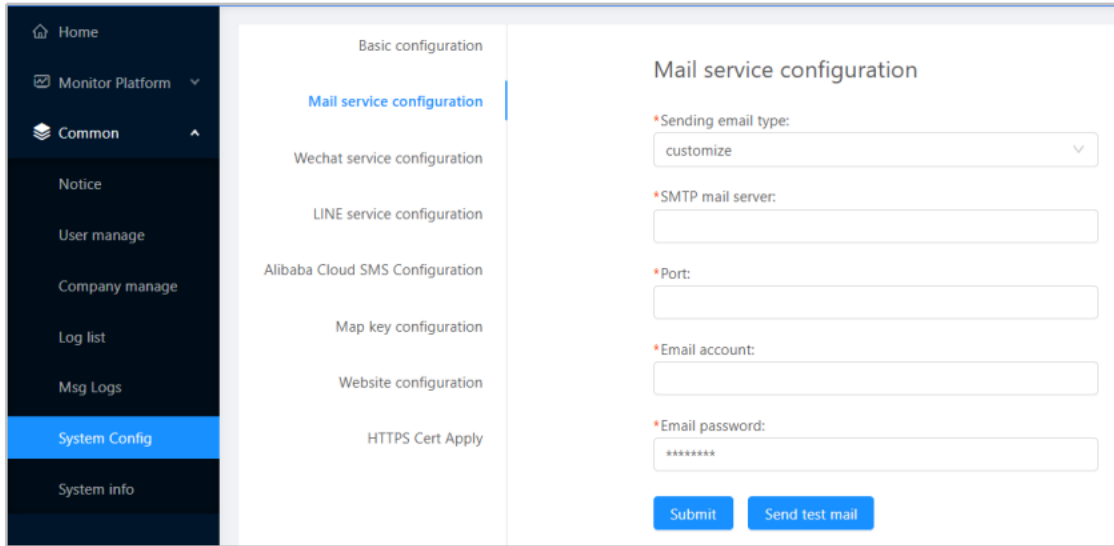

Figure 3-47
(3) Configure the System: Open "Common" → "System Config" → "Mail service configuration", "Wechat service configuration", or "Alibaba Cloud SMS Configuration" to configure the system. Fill in the required fields. Typically, email alarms are used because configuring email is convenient, whereas WeChat and Alibaba Cloud SMS alarms require purchasing or applying for the corresponding services. The email configuration interface is shown in Figure 3-47.